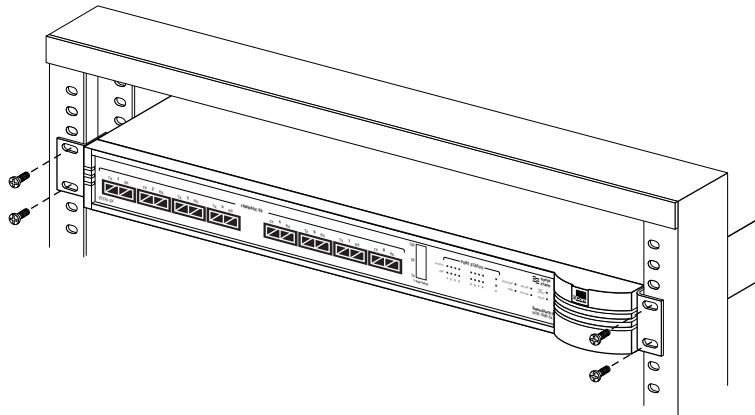

Figure 2-3 Rack Mounting the Hub
- 5 Mount the hub in the rack and secure it with suitable screws, as shown in Figure 2-3.